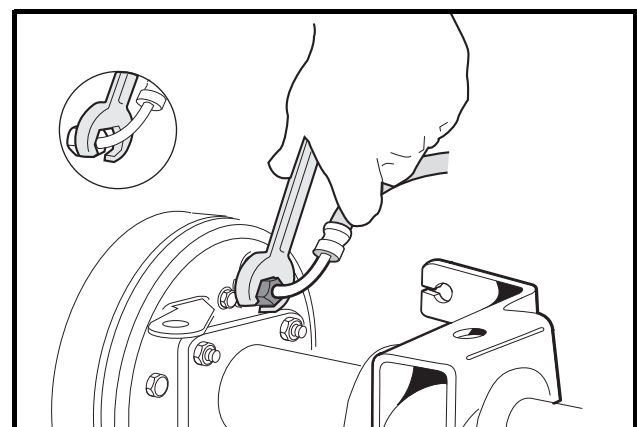

Figure 6-17 Rear Brake Hose Flare Nut
6. Use a 3/8-inch flare nut wrench and remove the brake hose fitting from the rear wheel cylinder (**Figure 6-17, Page 6-18**).
3. Use a 3/8-inch flare nut wrench and remove the brake hose fitting from the rear wheel cylinder (**Figure 6-17, Page 6-18**).
1. Install wheel cylinder (7) with two new bolts (9) and lockwashers and tighten the two bolts to 120 in-lb (13 N·m).
2. Connect the brake hose fitting to the wheel cylinder and tighten the flare nut fitting to 11 ft-lb (14.9 N·m) (**Figure 6-17, Page 6-18**).